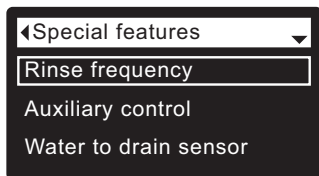

FIG. 72
5. Press the SELECT (O) button to display the Special features menu (See Figure 72).
9. Press the SELECT (O) button. The display will go back to the Special features menu (Figure 72).